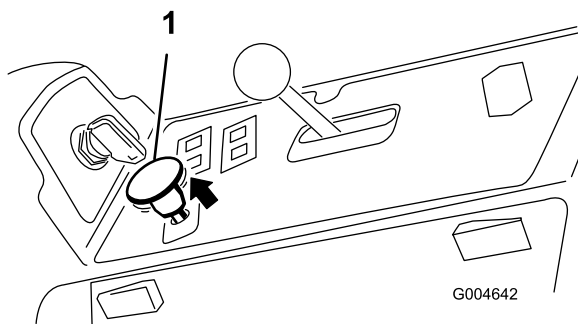

Figure 23
3. Pull up on the PTO switch to engage it (Figure 23).